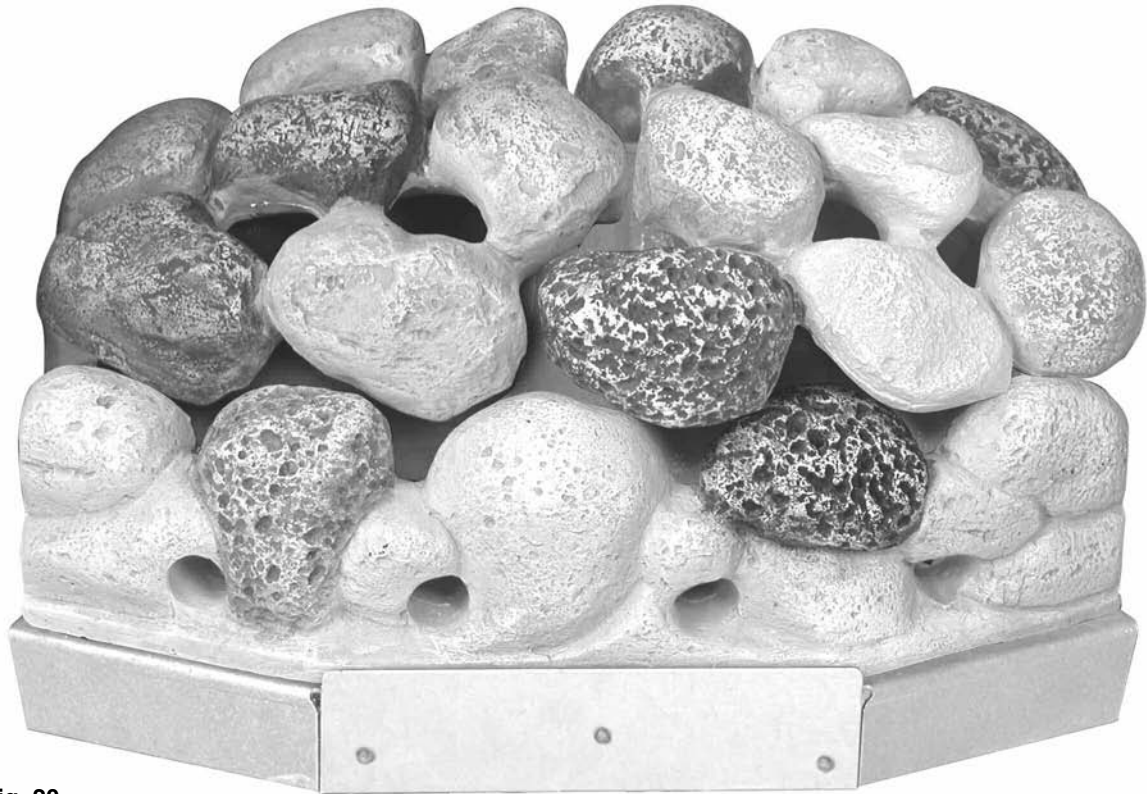

Fig. 20
5. Finally check that all the pebble pieces are 'nested' together correctly (Fig. 20).